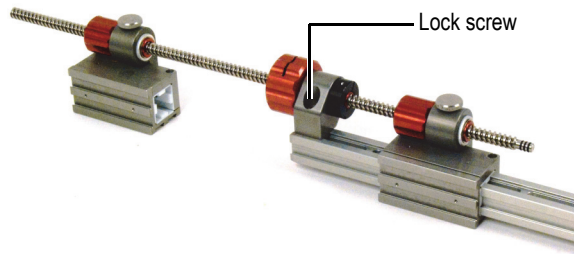

Figure 2-14 Installing or removing the y-axis slide assembly
1. Loosen the lock screw with a hexagonal key (see Figure 2-14 on page 47).
2. Tighten the lock screw with a hexagonal key (see Figure 2-14 on page 47).